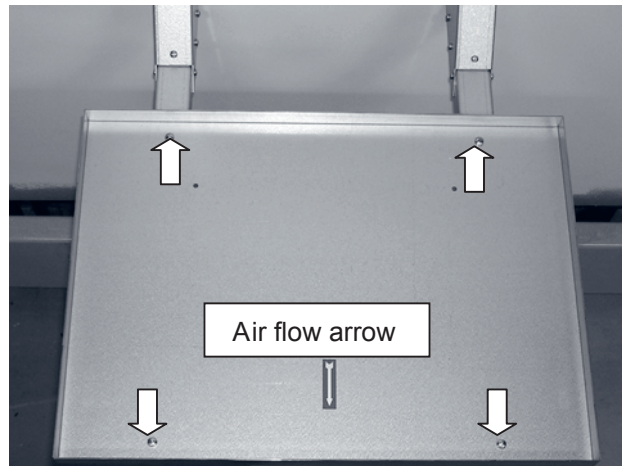

Fig 2
2. Fit the support plate with the air flow arrow (Fig. 2) pointing in the direction in which the dehumidifier discharges air. (N.B. Not towards the wall.) Secure the plate using four ST4.8x13 screws (see the arrows in Fig. 2)